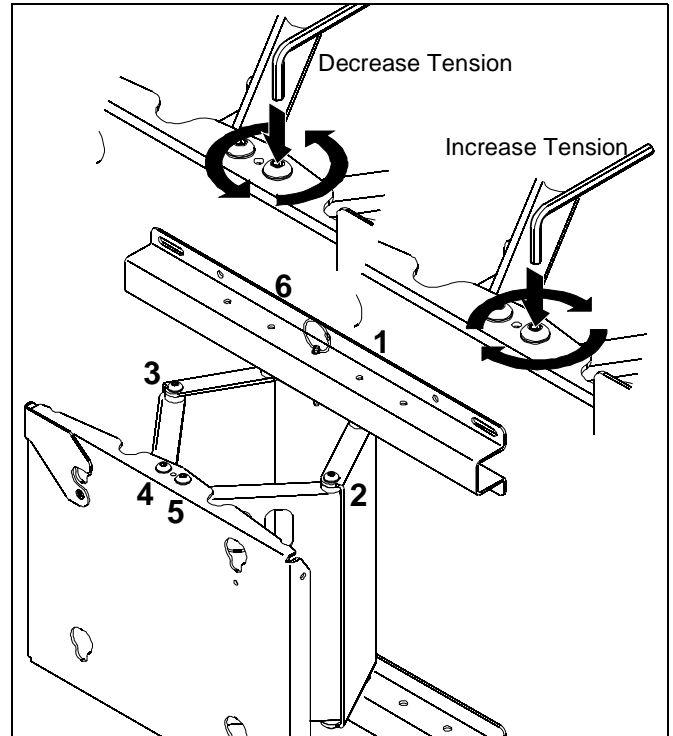

Figure 9
There are a total of 12 tension adjustment points on the mount (See Figure 9). Six on mount top, and six on mount bottom. Points 1 through 6 control mount extension and retraction tension. Points 1 and 6 control mount right left swing tension, and points 3 and 4 control display left right rotation tension.
NOTE: It is important that corresponding points are adjusted equally. **Example:** 1 and 6, 2 and 5, 3 and 4, and their corresponding adjustment points on mount bottom (See Figure 9).
2. Using the hex wrench provided, tighten or loosen adjustment screws until desired tension is achieved (See Figure 9).